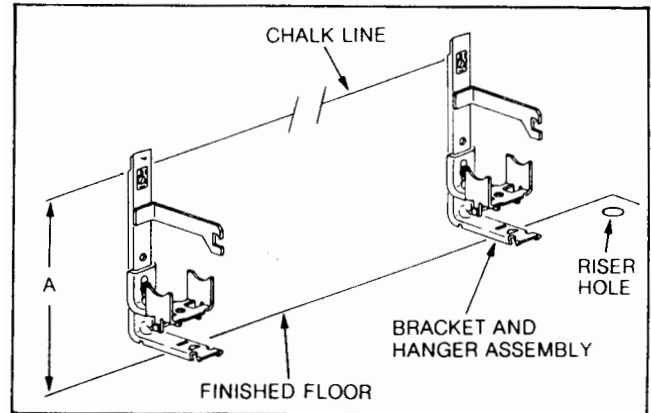

FIGURE 1
(Refer to Figure 1)
- Mount bracket and hanger assembly (Figure 1) to wall at chalk line with chalk line just visible at top of upper slot. One bracket should be located 6 in. from each end of the cover. An additional bracket, provided with 6, 7 and 8 ft. lengths, should be centered between the first two.